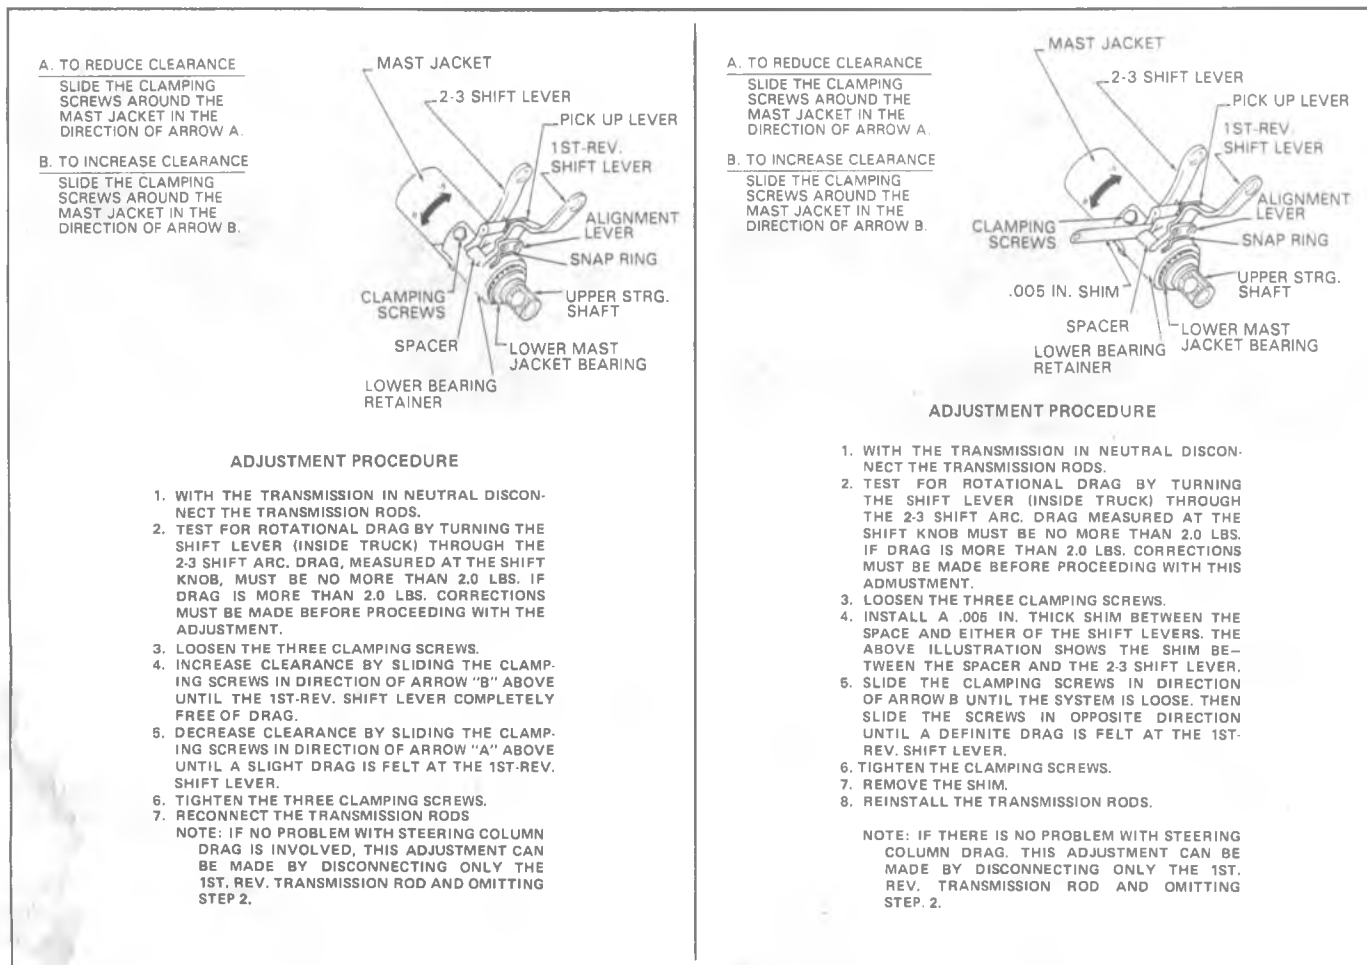

Fig. 3B4-48--Adjusting Lower Bearing-Typical
Disassembly-Tilt Columns (Fig. 3B4-49)
2. Mount the column in a vise using both weld nuts of either Set A or B as shown in Figure 3B4-41. The vise jaws must clamp onto the sides of the weld nuts indicated by arrows shown on Set B.